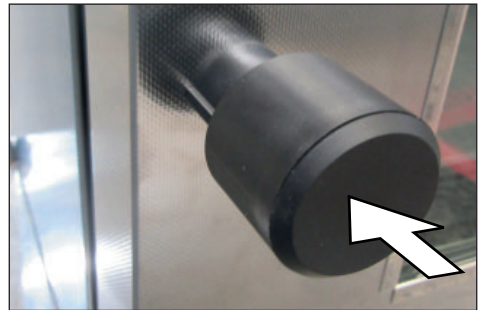

Fig. 27 Closing the door
- ▶ Press door knob in to close (Fig. 27).